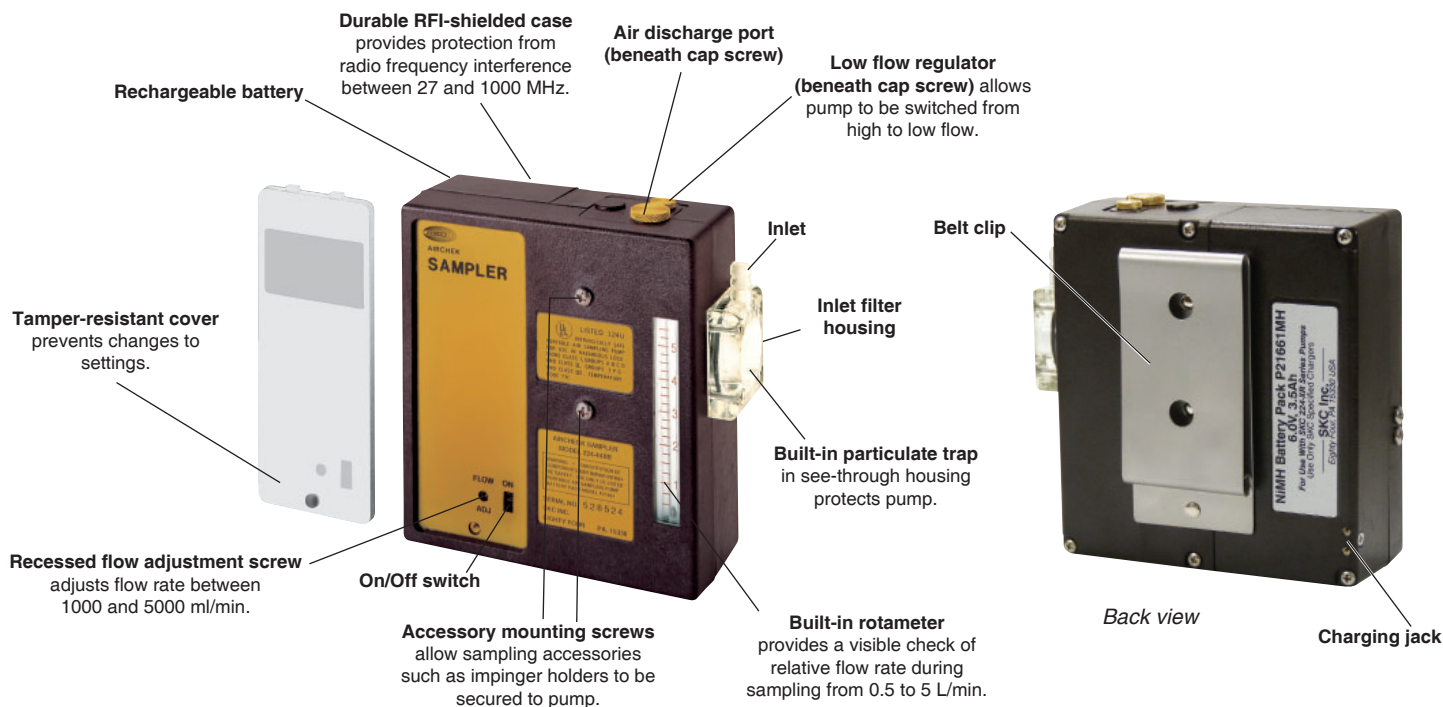

Figure 1. Front and back views of 44XR Universal Sample Pump
The 44XR Universal Sample Pump (Figure 1) is a constant flow (from 5 to 5000 ml/min) air sampler suitable for a broad range of applications. It is ideal for industrial hygiene studies as well as environmental testing.
3. Insert the charging plug end of the cable into the jack on the back of the pump's battery pack (Figure 1).
Turn Pump Power On/Off (Figure 1)
1. To ensure the pump is set for high flow, remove the cap screw (*Figure 1*) covering the regulator valve and turn the exposed screw **clockwise** until it stops. Do not overtighten. *See right.*
4. Set the flow rate using the flow adjustment screw (*Figure 1*) until the flowmeter indicates the method-specified flow rate. Take a minimum of three readings and record the average flow rate, as per OSHA/NIOSH instructions.
- b. **When using impingers, an in-line trap (SKC Cat. No. 225-22 or 225-22-01) is required to prevent fumes from accidentally being drawn into the sampler.** Place the in-line trap between the pump and the impinger. Mount the impinger and trap to the face of the sampler using the accessory mounting screws (*Figure 1*) or place them in a holster at the worker's waist.
3. Start sampling by turning on the pump using the on/off switch (*Figure 1*). Record the start time.